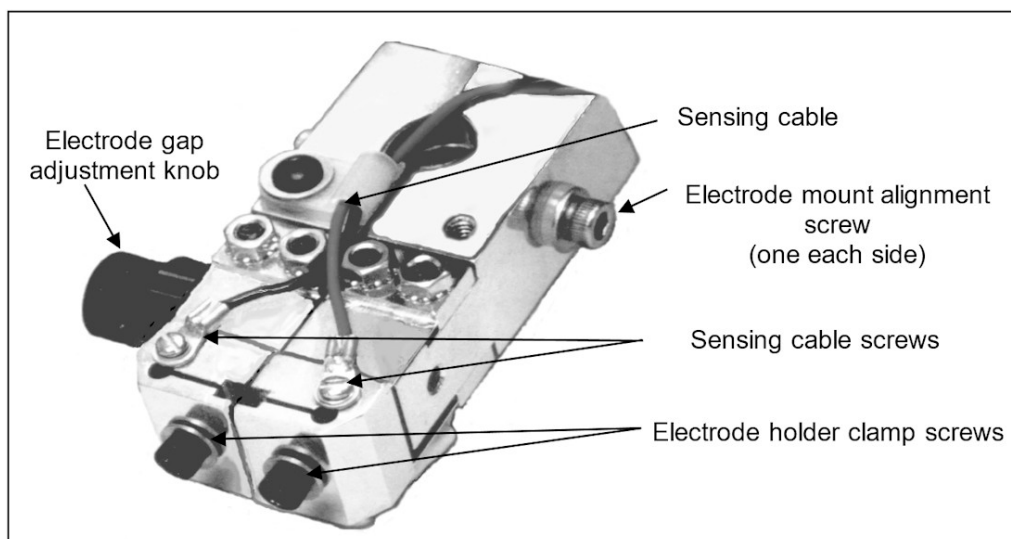

Figure 2-2. HE50UB Electrode Holder, Bottom View
- 1 Check the voltage sensor cable located on the underside of the HE50UB Electrode Holder. Verify that the two slotted head screws attaching the voltage sensing cable to the flexure assemblies, shown in figure 2-2, are securely tightened. Erratic operation results if they are loose